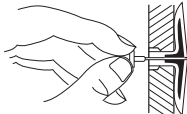

Figure 9 - Popping Open Anchor Wings For Thin Walls
4. For thin walls [1/2" (1.3 cm) or less], insert red key into wall anchor. Push red key to "pop" open anchor wings (see Figure 9). **IMPORTANT:** Do not hammer key! For thick walls [over 1/2" (1.3 cm) thick] or solid walls, do not pop open wings.